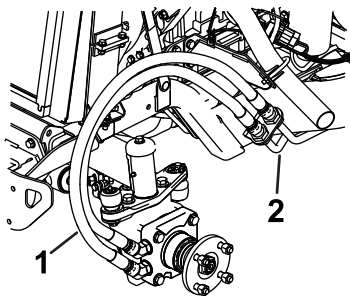

Figure 2
1. Remove the existing hydraulic hoses from the hydraulic lines in front of the wheel and immediately install the caps to the hydraulic lines (Figure 2 and Figure 3).